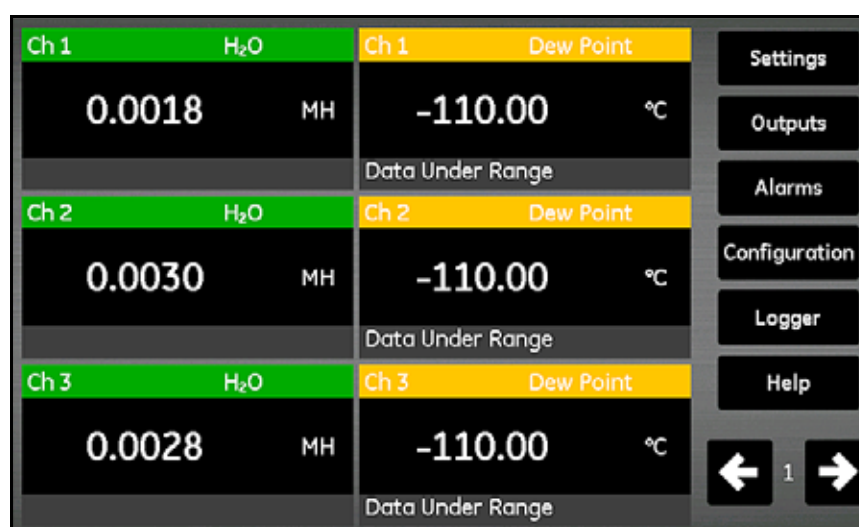

Figure 25: Measurement Display Screen
3. A measurement display screen, similar to that shown in *Figure 25* below.
The measurement display screen shown in *Figure 25* above is a touch screen which includes the following items: